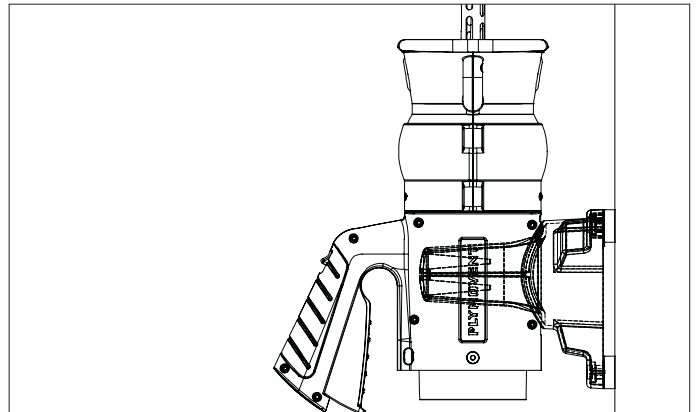

Fig. 4.6 Inserting the Grabber on the wall mount
- Insert the Grabber on the wall mount. Refer to fig. 4.6.